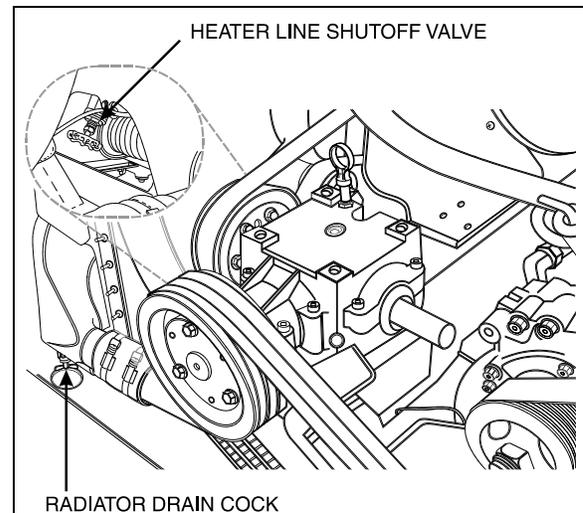

FIGURE 6: ENGINE COMPARTMENT
Another valve is located in the engine compartment under the radiator fan gearbox (Fig. 6).
5. Open the radiator drain cock (Fig. 6).